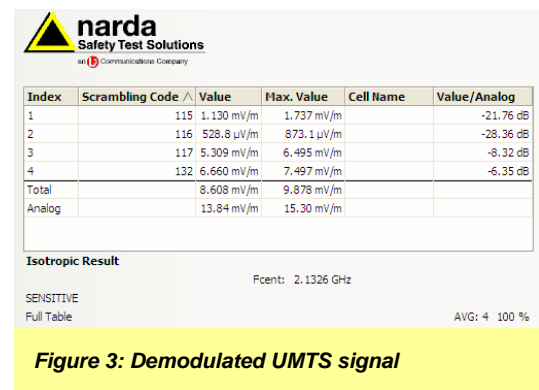

Figure 3: Demodulated UMTS signal
- Operating mode: **UMTS P-CPICH Demodulation** (Option) as in figure 3